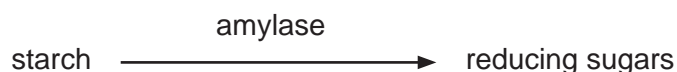

Fig. 1.1
- 1 Amylase is an enzyme which hydrolyses starch into reducing sugars, as shown in Fig. 1.1.